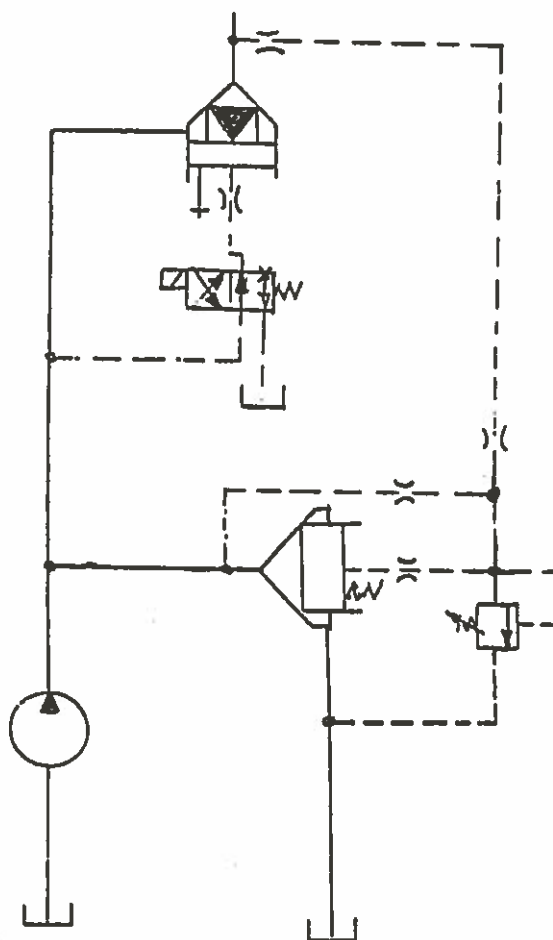

Figure 5
17. The circuit in Figure 5 provides an ON OFF flow condition by the directional valve plus a: